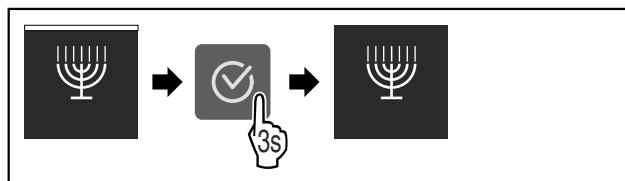

Fig. 14
- ▶ Complete the steps (see Fig. 14).